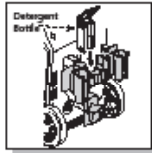

Fig. 2
- After installation, you will notice a square area for easy storage and retrieval of the detergent bottle (Fig.2).